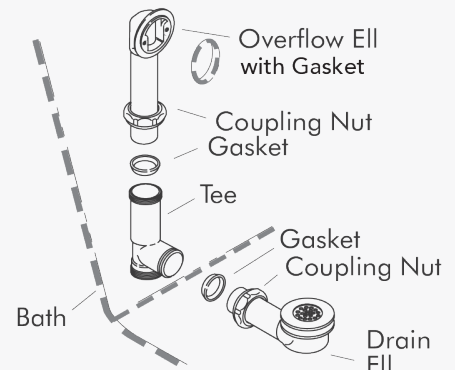

FIG. 1
1. Test assemble out of tub to ensure complete understanding of placement/parts. **(FIG. 1)**